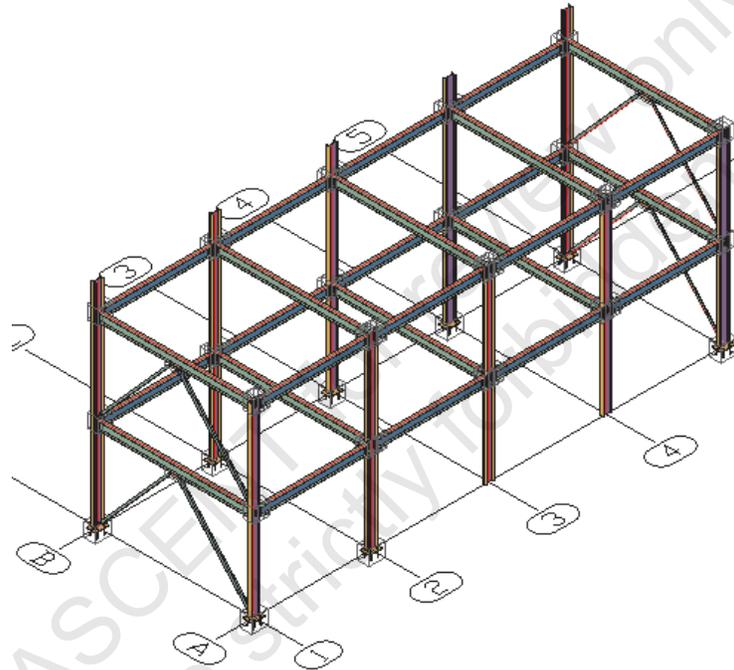

Figure 1-71
8. Select the beams along Grid A on the second level. Press <Enter>, select the corresponding columns, and then press <Enter>. The columns are extended, as shown in Figure 1-71.